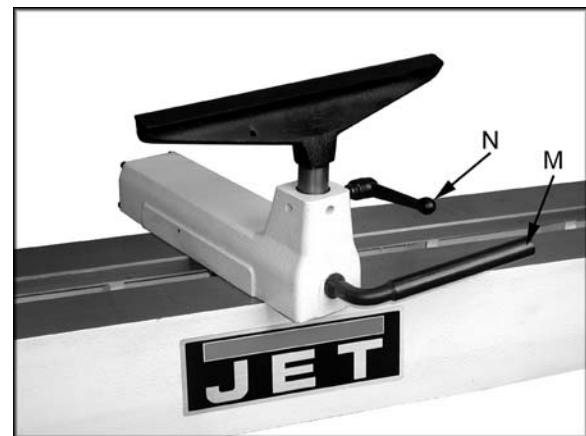

Figure 9
10. **Tool Rest Body Lock Handle:** (M, Figure 9) Locks the tool rest body in position. Unlock handle to position the tool rest in any location along lathe bed. Tighten handle when properly positioned.
11. **Tool Rest Lock Handle:** (N, Figure 9) Locks the tool rest in position. Unlock the handle to position tool rest at a specific angle, or height. Tighten handle when properly positioned.